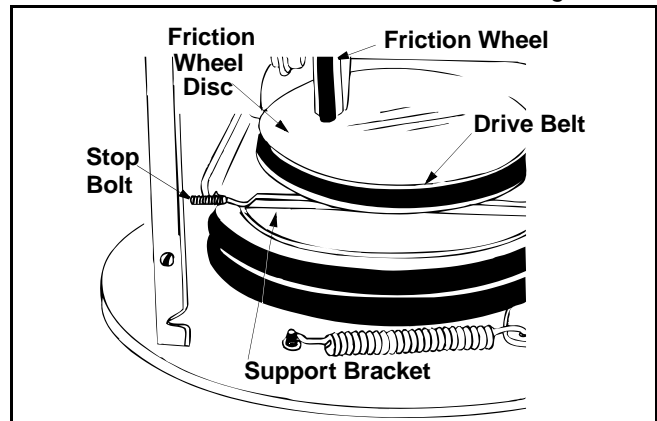

Figure 23
- Back out the stop bolt to allow the belts to slip between the bolt and auger pulley. See Figure 23.
- Back out the stop bolt until the support bracket rests on the auger pulley. See Figure 23.
NOTE: The support bracket must rest on the stop bolt after the new belt has been assembled. See Figure 23.